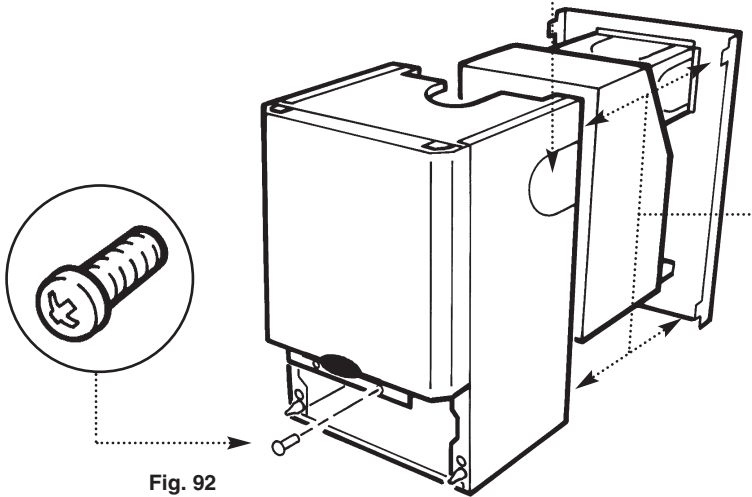

Fig. 92
6. Using the two screws previously removed, secure the outer case to the combustion box (Fig. 92).